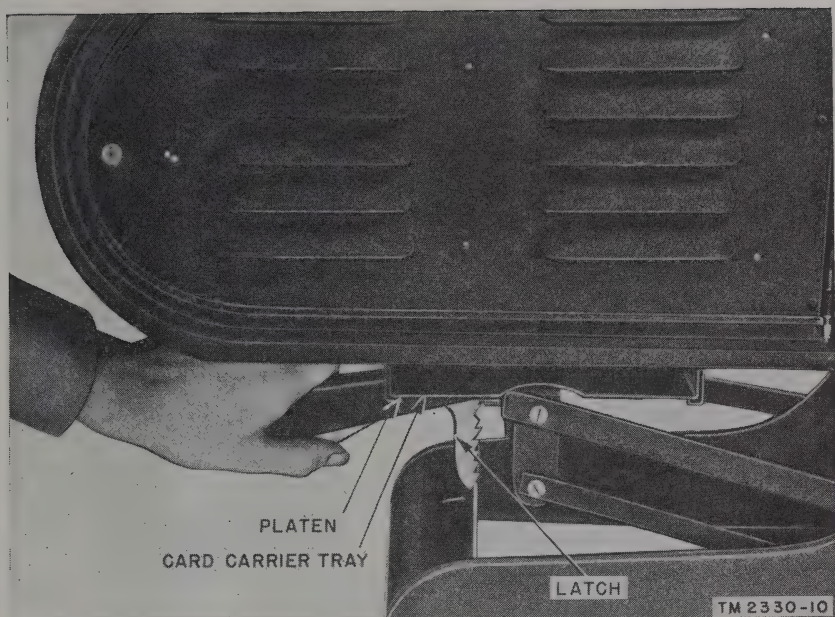

Figure 9. Operation of opaque copy holder.
c. *OPERATION OF OPAQUE COPYHOLDER* (fig. 9). Face the doors of the projector and place the left hand on the handle, with the thumb on the trigger. Depress the trigger with the thumb and lower the copyholder. The latch will enter a rectangular hole in the cross brace of the projector base. To lock the copyholder in the open position, remove the thumb from the trigger, permitting the teeth on the latch to engage with the cross brace. To return